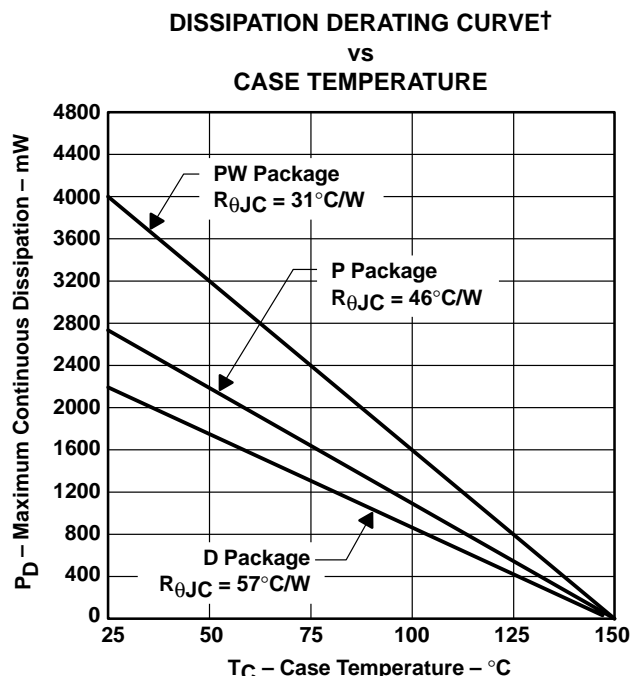

Figure 4
**DISSIPATION RATING TABLE 2 – CASE TEMPERATURE (see Figure 4)#**